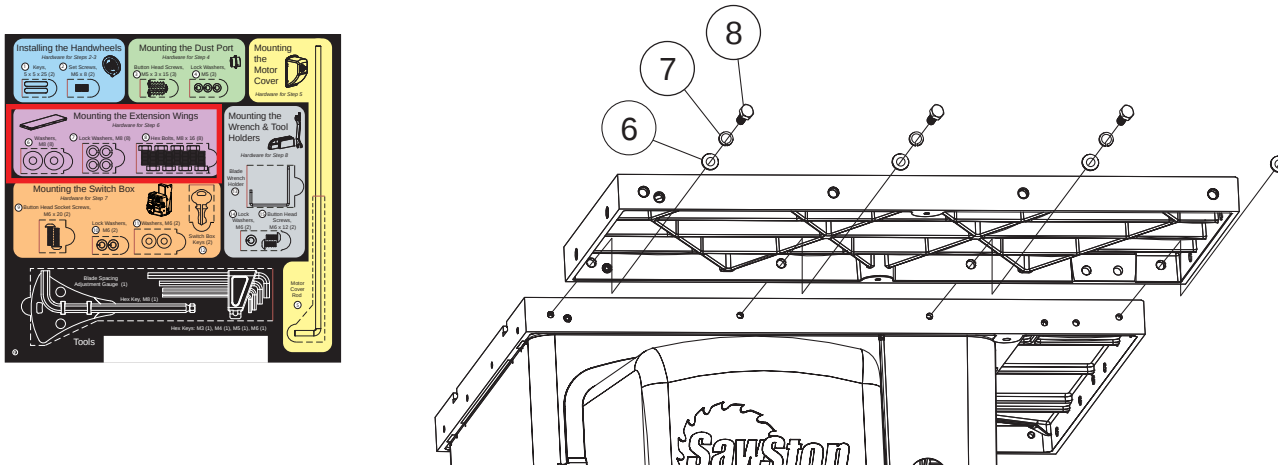

Fig. 26
- The hardware required to mount the cast iron extension wings to the cast iron table top is located in the area with the purple background on the Table Saw Hardware Pack. Position one of the extension wings next to the left side of the cast iron table with the chamfer toward the front and align the holes in the side of the wing with the four threaded holes on the side of the table (see Fig. 26). Mount the left extension wing with four M8 washers, four M8 lock washers and four M8 x 20 hex bolts, but do not tighten. Repeat the same procedure to mount the other extension wing to the right side of the table.